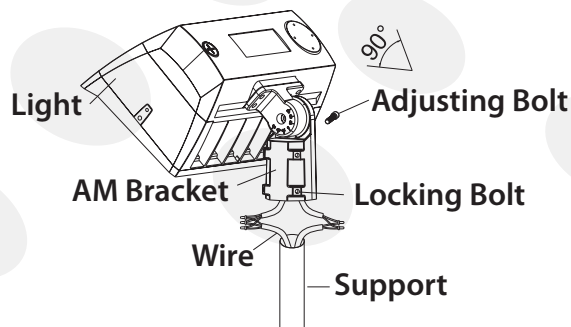

Figure 5
1. ADJUSTABLE FITTER MOUNTING (AM)
Step 1: Connect the wire correctly and put the wire into pole. Then fasten the locking bolts between slip fitter and the pole. (Figure 5)
Notice: Adjustable angle is $0 \sim \pm 90^\circ$ (Figure 5)